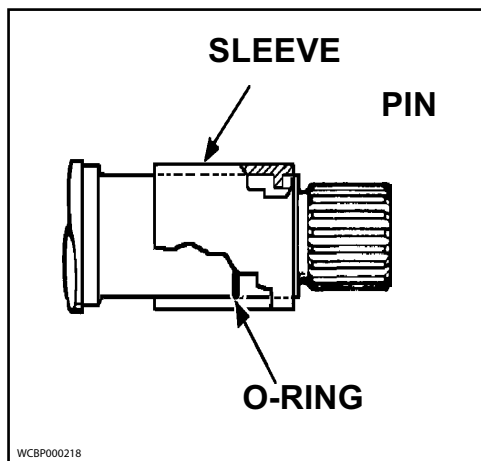

Figure 90 - Place O-rings on shaft grooves
1. Place the O-rings into grooves on shafts then slip sleeves onto shafts with pin indexed into notch on shaft, as shown in Figure 90.